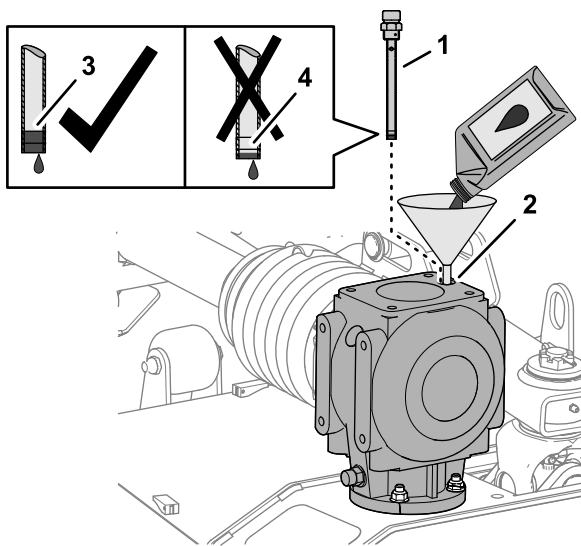

Figure 63
1. Add 1,064 ml (36 fl oz) of the specified gear lubricant to the gearbox through the dipstick port (Figure 63).
2. Thread the dipstick into the port, remove the dipstick, and check that the lubricant level (Figure 63).
4. Thread the dipstick into the fill port and tighten the dipstick (Figure 63).